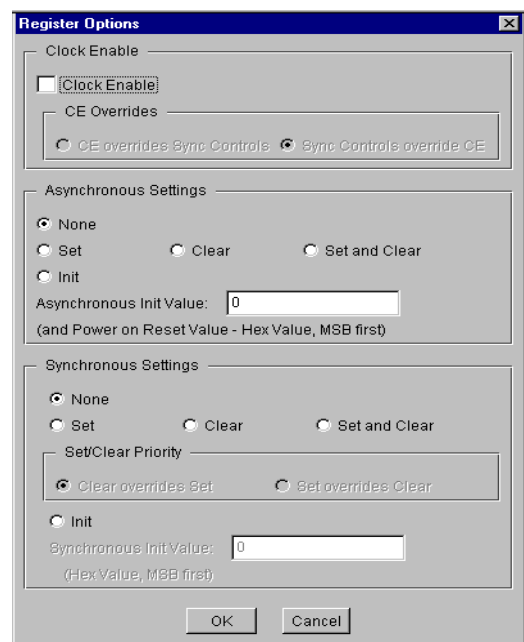

Figure 2: FD-based Shift Register Options Parameterization Screen
- **Register Options:** Clicking on this button brings up the Register Options parameterization screen (see Figure 2).
The Register Options parameterization screen for this module is shown in Figure 2. The parameters are as follows: